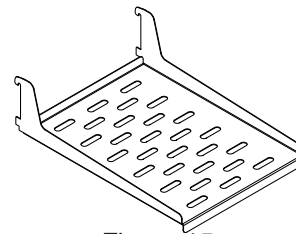

Figure 15
- (1) half width perforated stainless steel cantilever shelf. (See Figure 15).